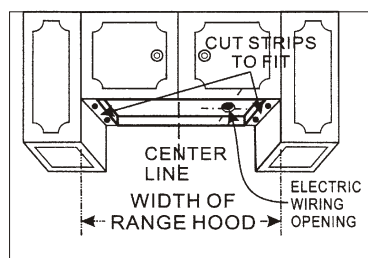

Fig.5
- a. Measure the space (under the cabinet between the inside front edge and inside back edge (Fig.5). With a saber, cut two 1"x2" wood filler strips (purchased locally) to fill in the bottom of the cabinet.